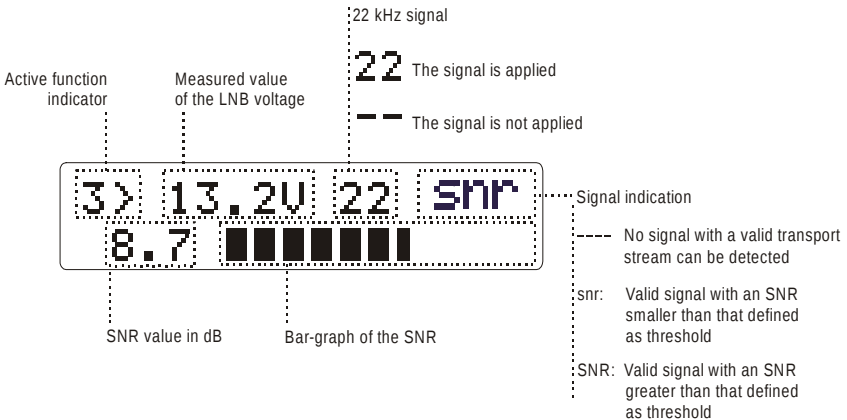

Figure 15.- Measuring SNR.
The top line of the screen shows the measured LNB voltage and whether the 22 kHz are present (see figure 15). It also shows whether a signal with valid transport stream is detected at the frequency (or frequencies) assigned to a specific satellite (in which case 'snr' or 'SNR' appears on screen).
5. Connect the battery to connector J6 next to the battery receptacle (see figure 15). The connector has only one position.